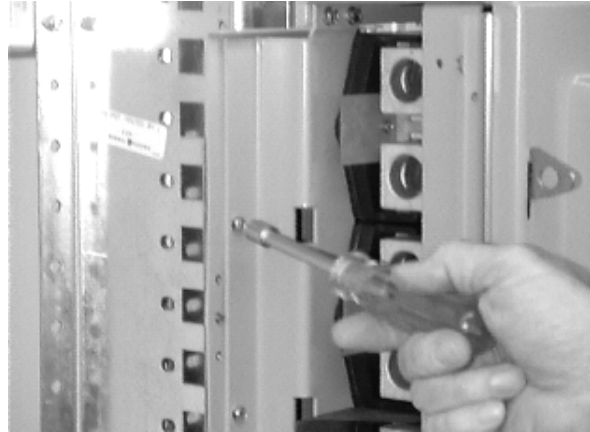

Figure 5. Attaching the strap module to the switch.
3. **Attach the switch to the module.** Orient the switch with the ON end of the label facing up. Attach the strap module assembly with the ten #10-32 hex-head self-tapping screws provided, as shown in Figure 5. Tighten the screws to 27–32 in-lb.